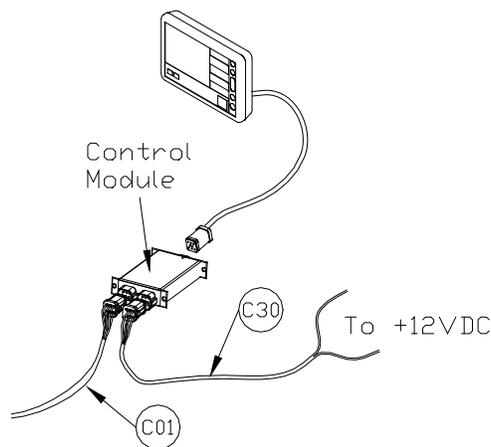

Figure 4: Typical Control Module Installation
4. Locate the network cable (C01) that plugs into the Control Module. Disconnect the cable from the Control Module (**Figure 4**). The Ohm test will be performed on this connector.
3. Reconnect cable C01 to the Control Module. (**Figure 4**). Ensure the power is connected to the Control Module and the Display Bus is connected.